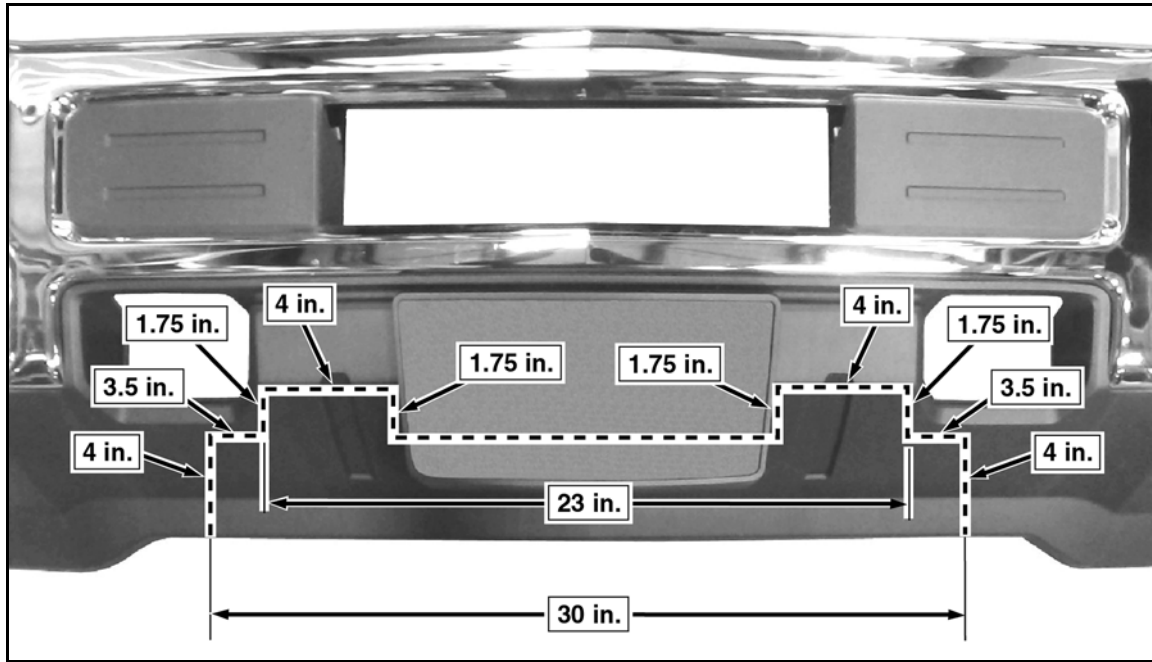

Figure 10
K. Steps G-J removes the interfering bumper bracket from the rear of the bumper. The remaining plastic can be modified and cut as usual for the VMK. See Figure 10 for reference of how to cut the plastic for setting the VCM to 10 in. Keep in mind height dimensions 4 in. & 1.75 in. may vary depending on the ride height of the truck.